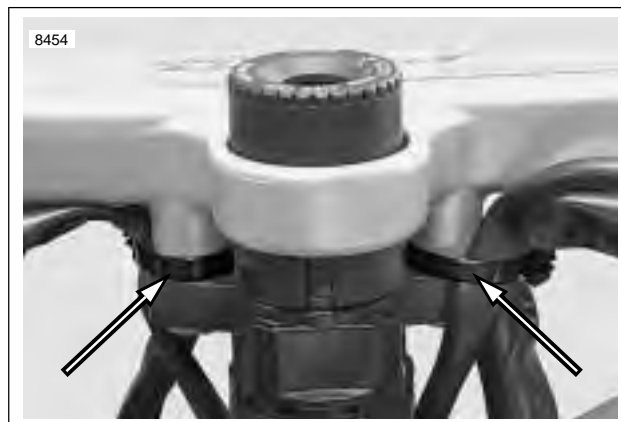

Figure 2-68. Cable Straps On Upper Fork Clamp
3. See Figure 2-68. Remove cable straps attached to the upper fork clamp.
15. See Figure 2-68. Install cable straps.